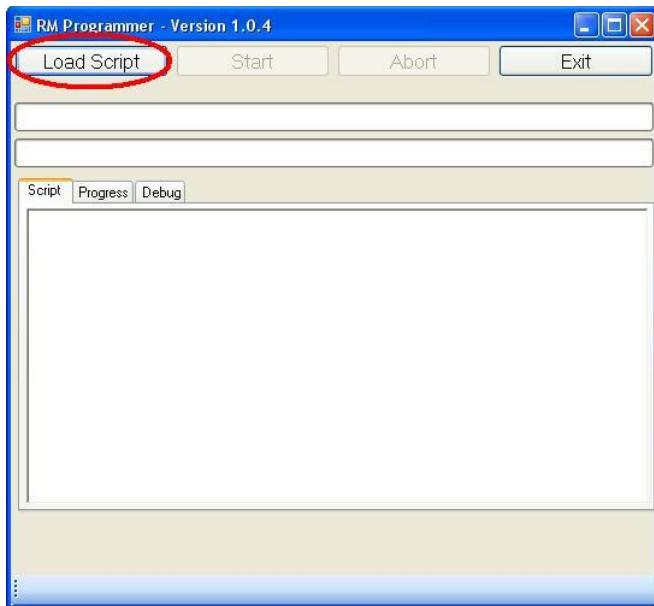

Figure 36: RM Programmer start screen
- 2) Press the 'Load Script' button on the RM Programmer interface as highlighted in Figure 36
- 2) Press the 'Load Script' button on the RM Programmer interface as highlighted in Figure 36.